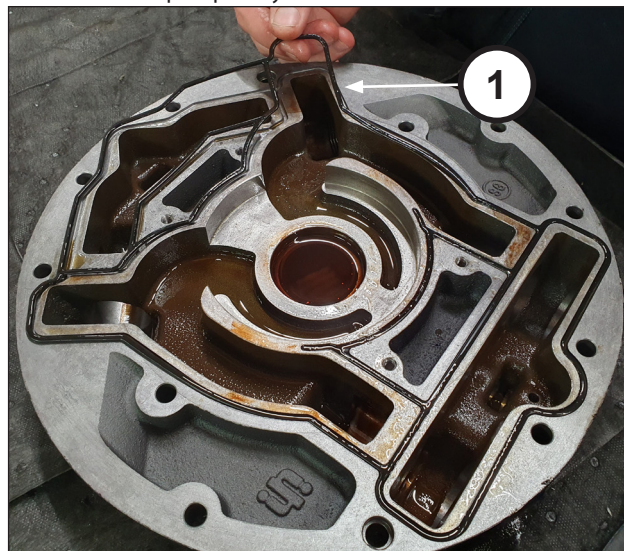

Fig. 92
Insert the shaped O-ring (pos. ①, Fig. 92) in the appropriate seat in the lube pump body.